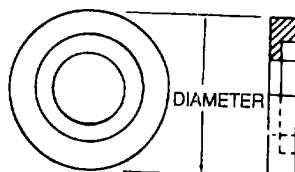

Figure 2-32. Taper Pin Washer
c. **High Tensile Special Washers.** Taper pin, high tensile, countersunk, and preload indicating special washers are identified in figures 2-32 through 2-35.